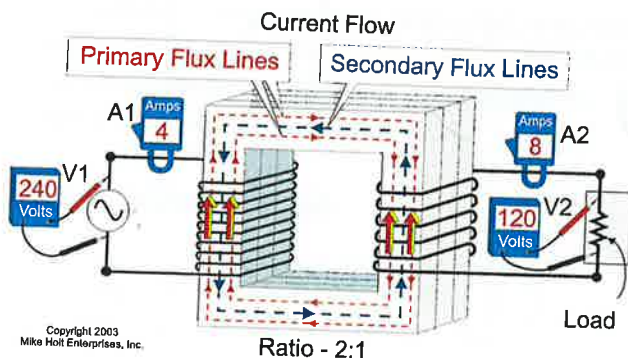

Figure 22-19
- Step 3** The flux lines from the secondary magnetic field effectively reduce the strength of the primary flux lines, and as a result, less CEMF is generated in the primary winding conductors. With less CEMF to oppose the primary applied voltage, the primary current increases in direct proportion to the secondary current. **Figure 22-19**